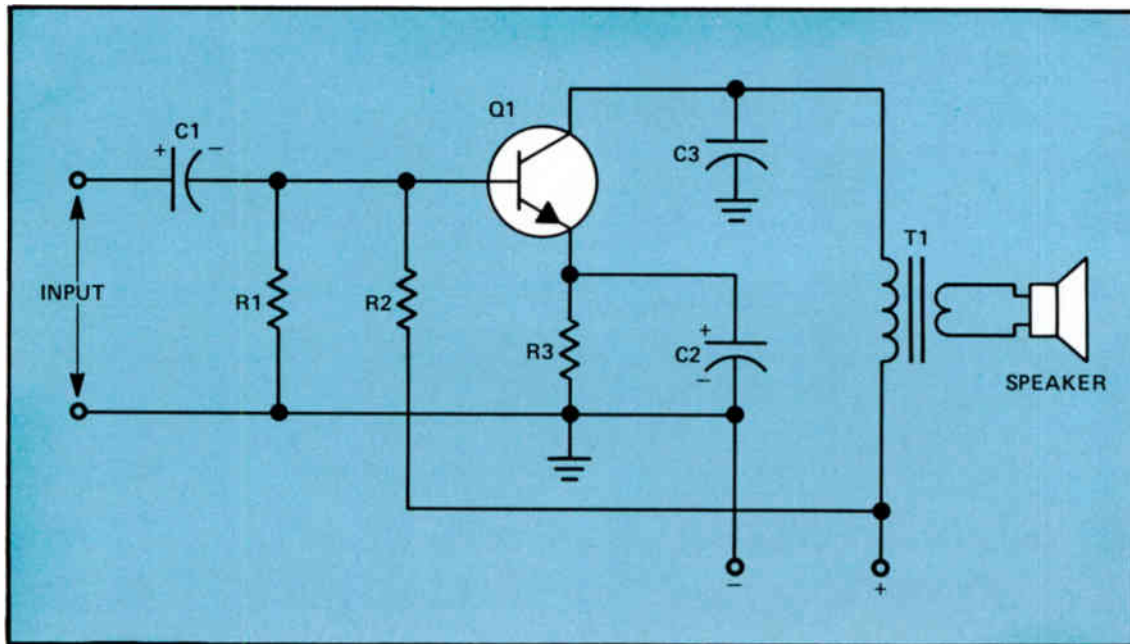

Figure 9. Schematic diagram of single-ended Class A amplifier using an npn transistor.
A single-ended power amplifier is shown in Fig.9. This amplifier is a Class A amplifier. A Class A amplifier is biased at the midpoint of its characteristic curve. This means that the forward bias across the emitter-base junction is adjusted so that the current flowing through the transistor is halfway between zero current and maximum current.
The transistor used in the circuit of Fig.9 is an npn transistor. Forward bias for the emitter-base junction is provided by R1 and R2. Current flowing from ground through R1 will develop a voltage across the resistor having the polarity so that the end connected to the base will be positive. Current flowing through R3 will also develop a voltage across this resistor so that the emitter is positive with respect to ground. However, the values of R1 and R2 are adjusted so the base is more positive than the emitter. Thus, the base current will be equal to the current needed to cause the collector current to be about halfway between zero and saturation.
Negative feedback can be applied to the single-ended Class A power amplifiers shown in Figs.9 and 10 by omitting C2. C2 is the emitter bypass in the circuit.
In the circuit in Fig.9, if the input signal swings the base of Q1 in a positive direction,
- 10 In Figs.9 and 10, is T1 a step-up or a step-down transformer?